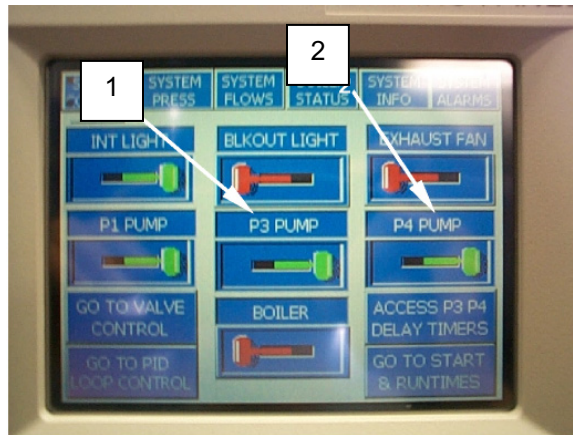

Figure 6. Sodium Bisulfite Preservation Procedure – Pump Settings.
- Switch the P-3 pump (**Figure 6, Item 1**) and P-4 Pump (**Figure 6, Item 2**) ON by touching the display screen.